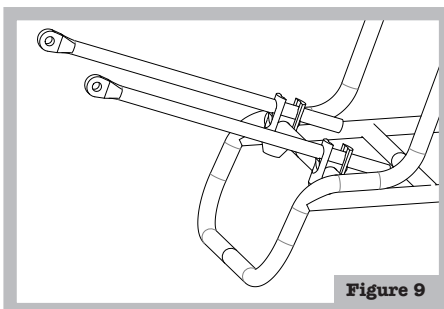

Figure 9
9. Figure 9 shows how the tube blocks and sliders should be assembled. Tighten the M8 set screws just enough to keep the assembly together. Keep loose enough to allow adjustment for installation (Figure 9).